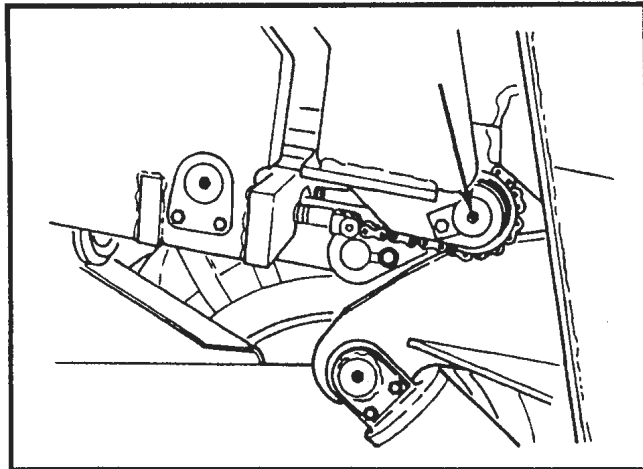

Figure 9-6. Chain Sheave Bearings Lube Point
Lubricate the chain sheave bearings (3 fittings) with MPG-EP grease. Refer to the Lubrication Chart, Figure 6-1, item 8, and to Figure 9-6.